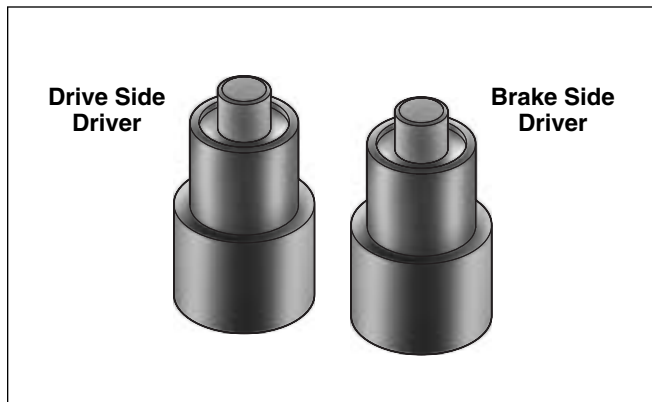

Figure 2-99. Rear Swingarm Bearing Installer (HD-45327)
- a. Obtain REAR SWINGARM BEARING INSTALLER (HD-45327). See Figure 2-99.